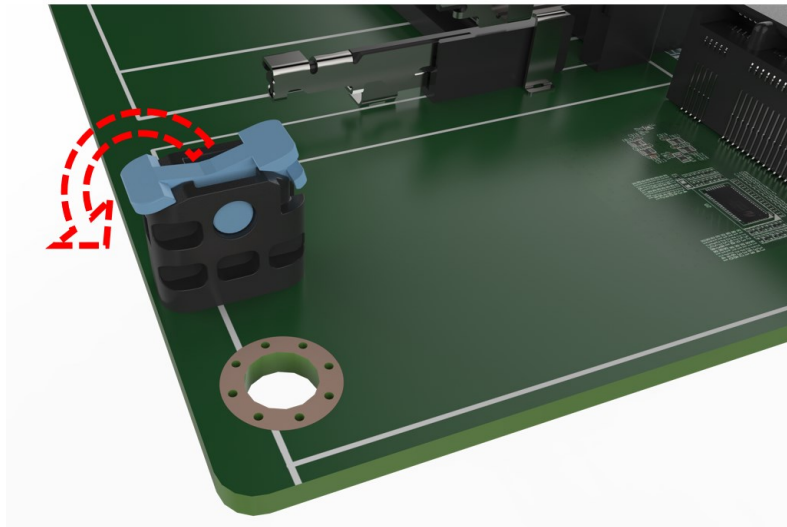

Figure 3-6: Press the end of the M.2 retaining clip
Step 3: Press the end of the M.2 retaining clip. As shown in **Figure 3-6**.